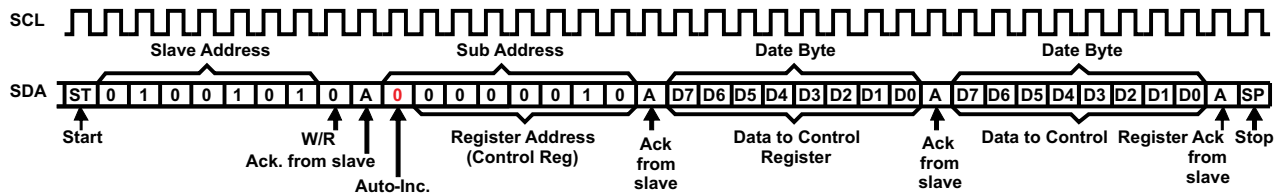
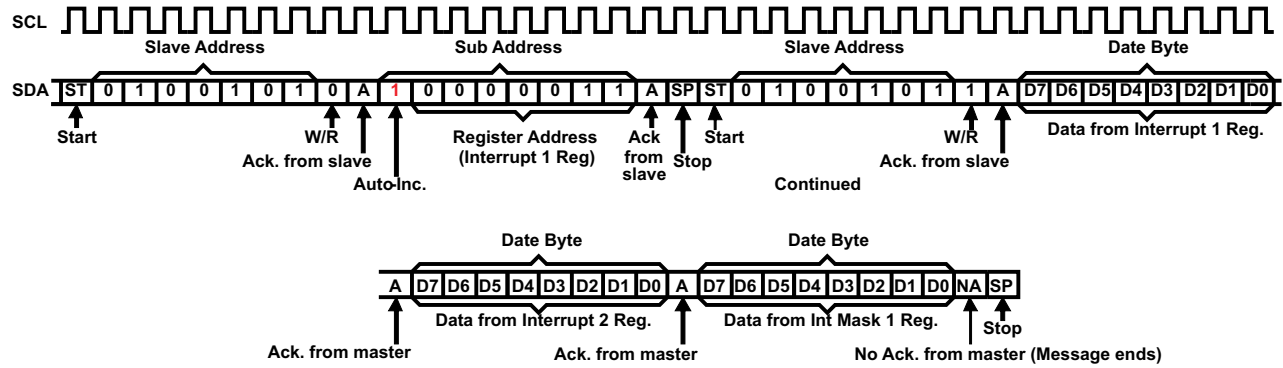

Figure 5. Repeated Data Write to a Single Register
Figure 10. Burst Data Read from Multiple Registers – Split Mode
Data is transmitted to the TSU6111 by sending the device slave address and setting the LSB to a logic 0 (see Figure 5 for device address). The command byte is sent after the address and determines which register receives the data that follows the command byte. The next byte is written to the specified register on the rising edge of the ACK clock pulse.
**Notes (Applicable to Figure 5–Figure 10):**